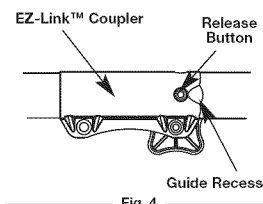

Fig. 4
- Press and hold the release button (Fig. 4).
- NOTE:** Aligning the release button with the guide recess will help installation (Fig. 4).